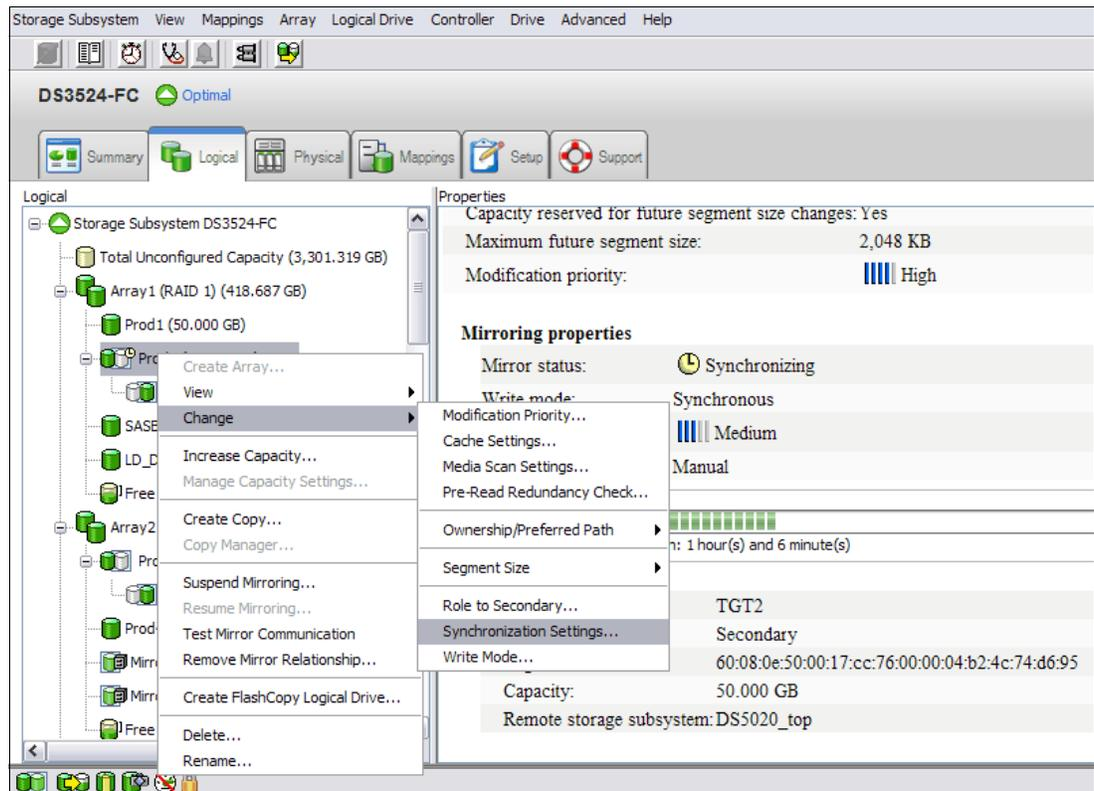

Figure 5-35 Selecting synchronization settings to change
1. Select a primary logical drive in the Subsystem Management window logical view (Figure 5-35). Then, select **Logical Drive** → **Change** → **Synchronization Settings** from the pop-up menu.